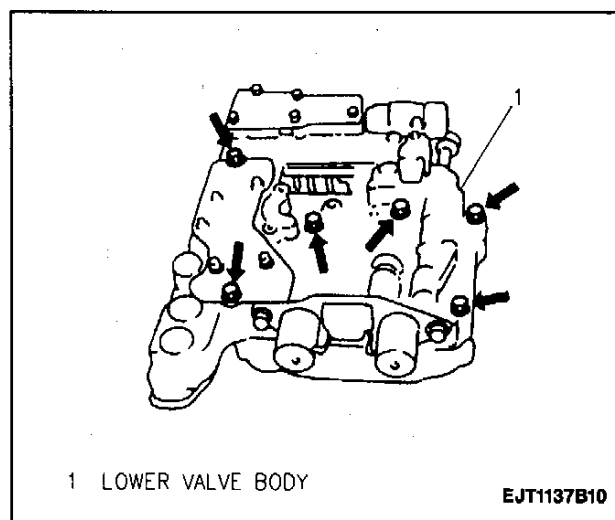

Figure 112—Lower Valve Body Bolt Location (03-72LE, 4-Speed)
11. Tighten lower valve body side bolts (Figure 112).